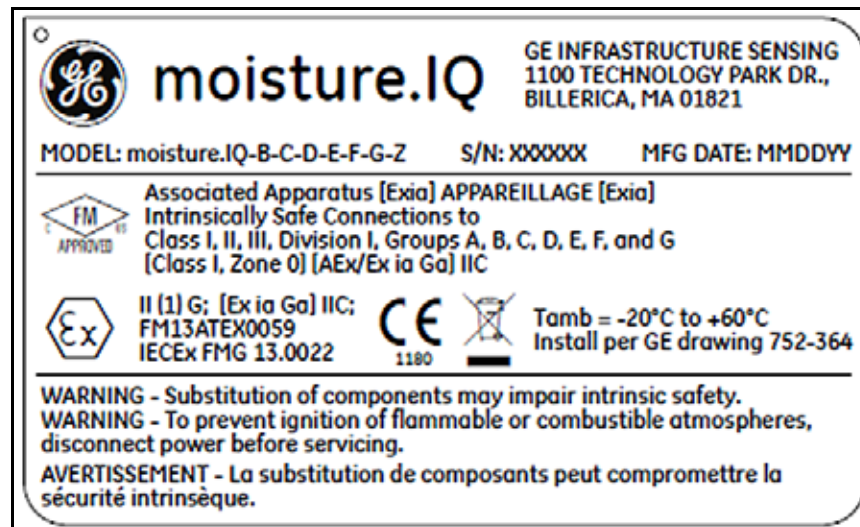
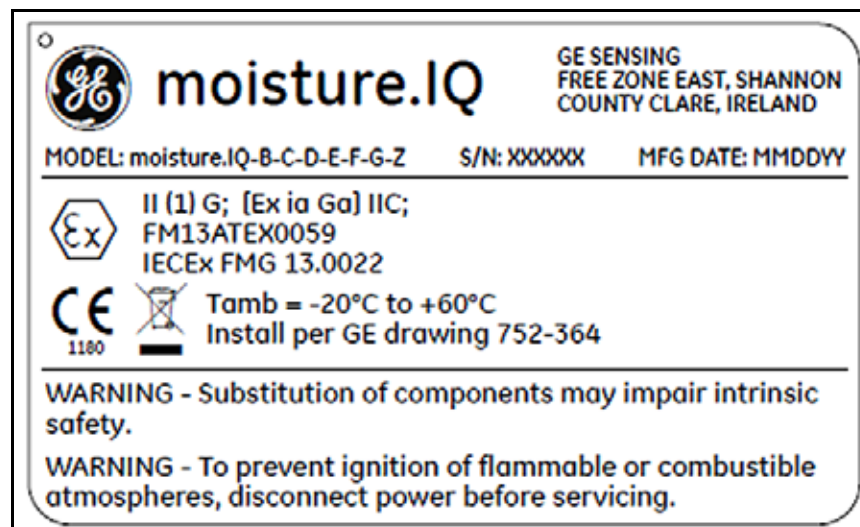

Figure 3: Label from Billerica, MA, USA
Figure 4: Label from Shannon, Ireland
- Markings shall appear on the product as shown in *Figure 3* and *Figure 4* below: